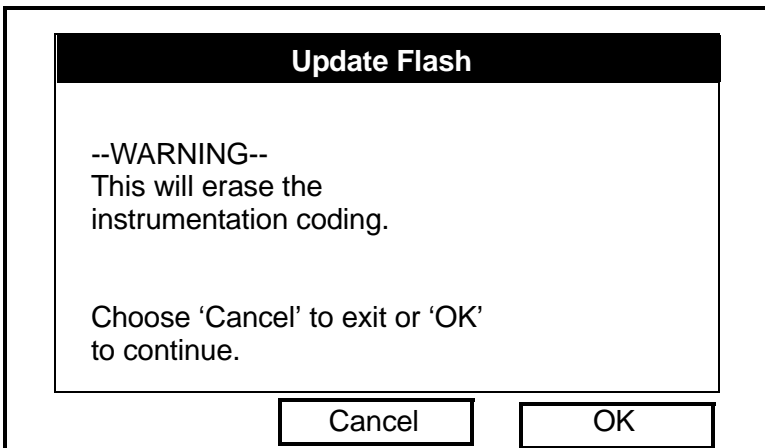

Figure 9-30: The Flash Update Option
To begin the loading procedure, scroll down to the Flash Update entry in the Service Menu and press [ENTER]. The screen appears similar to Figure 9-30 below.
1. As shown in Figure 9-30 on the previous page, the Flash Update option erases all instrument coding.
- Press [F3] (OK) to confirm that you wish to erase the program.